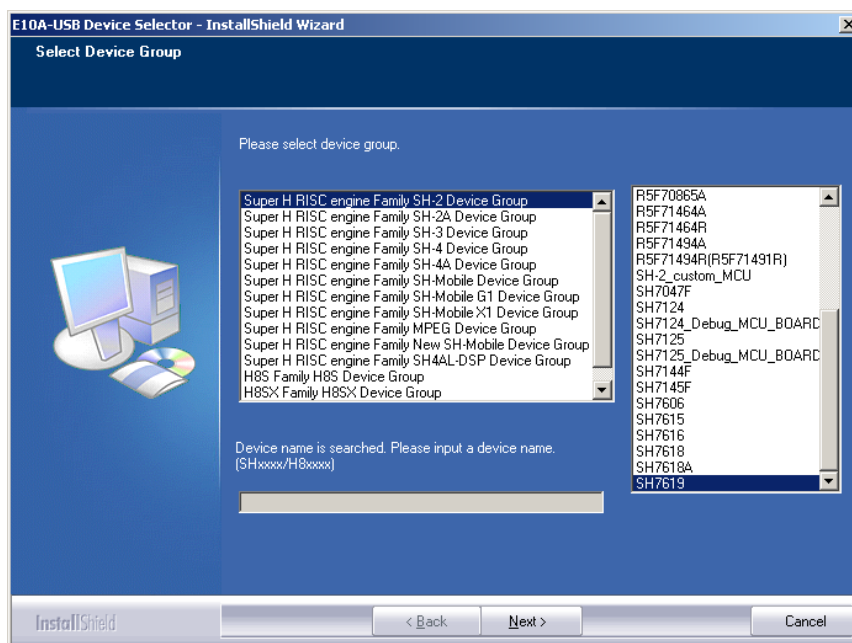

Figure 3.2.3 E10A-USB Software Installation (3/7)
- (3) Following dialog box will appear as Figure 3.2.3. Select “SuperH RISC engine Family SH-2 Device Group”, “SH7619” and click “Next”.